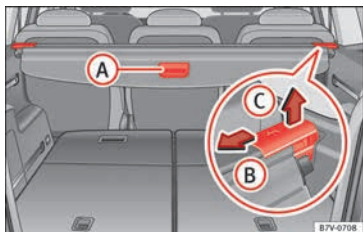

Fig. 165 In the luggage compartment: rear shelf
- Pull the shelf handle » » » Fig. 165 A back-wards.
- Release the shelf in the direction of the arrow » » » Fig. 165 B.
- Lift the shelf off in direction of the arrow »» Fig. 165 B.
- Release the shelf in the direction of the arrow »» Fig. 165 B and lift it in the direction of the arrow C.